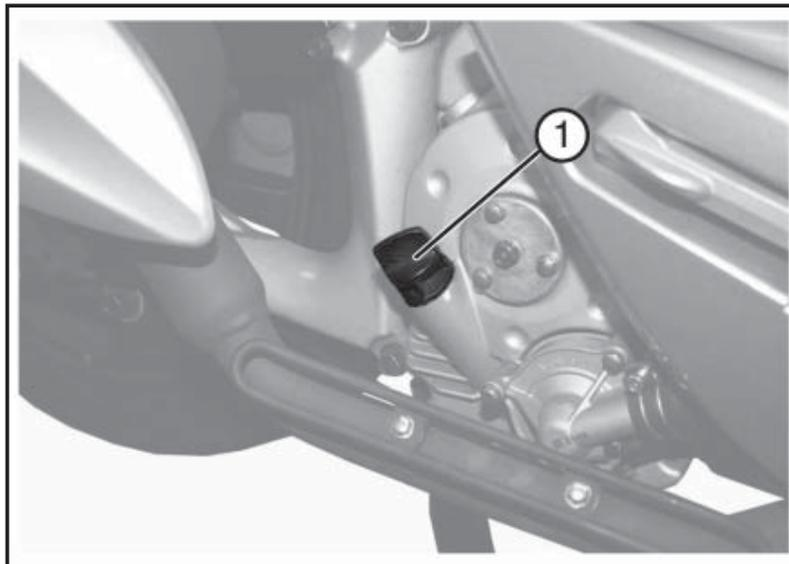

Fig. 02
- Unscrew the cap-dipstick «1 - Fig. 02» and clean it with a clean cloth.
- Screw the cap-dipstick up completely «1 - Fig. 02».
- Unscrew the cap-dipstick again «1 - Fig. 02» and check that the oil level reaches the level midway between **MIN** and **MAX** indicated in Fig. 01.